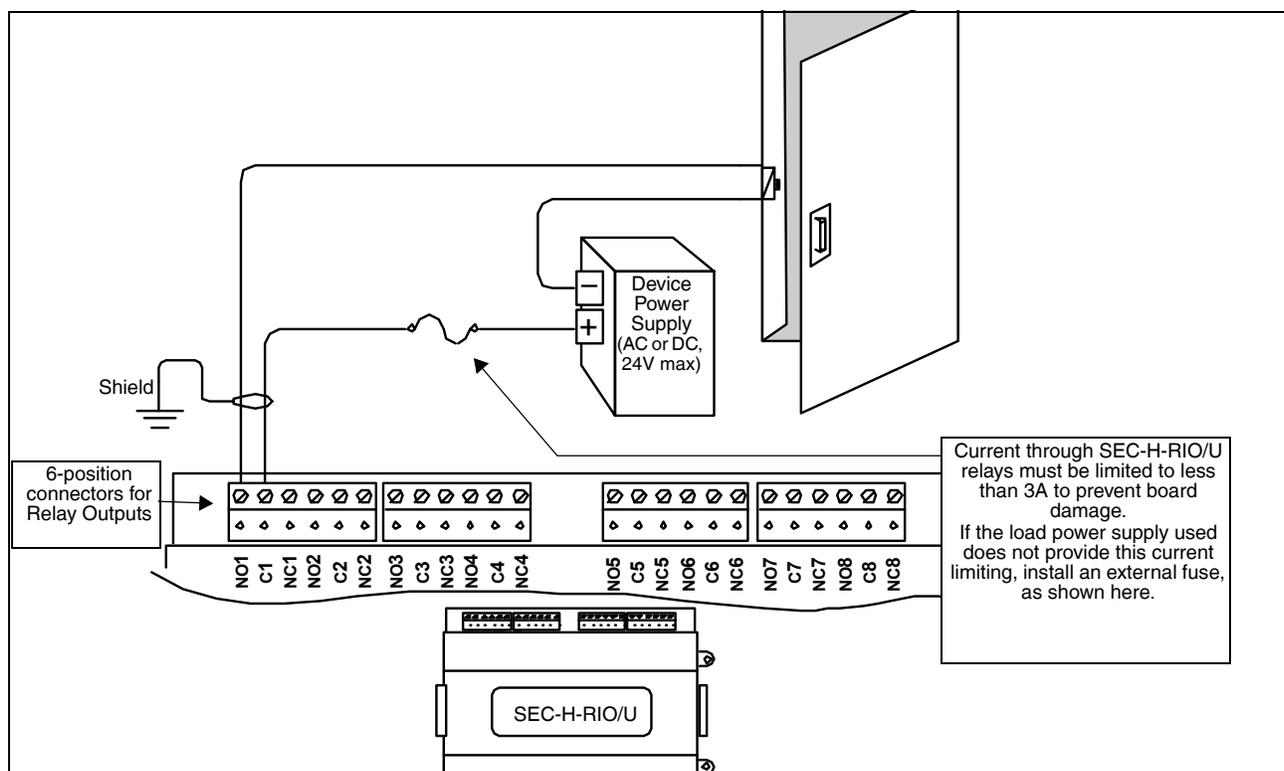

Fig. 6. Relay output wiring from SEC-H-RIO/U module to door strike.
The SEC-H-RIO/U module has eight (8) Form-C relay outputs, each rated to switch 24VAC/DC loads up to 3A. Output terminals are on four 6-position connectors on the top of the board (see Fig. 6). Output terminals are labeled from 1–8, with each having a NO n , C n , NC n position—for example NO2, C2, NC2 for relay output 2.
Typical door strike wiring, in this case using relay output 1, is shown in Fig. 6.